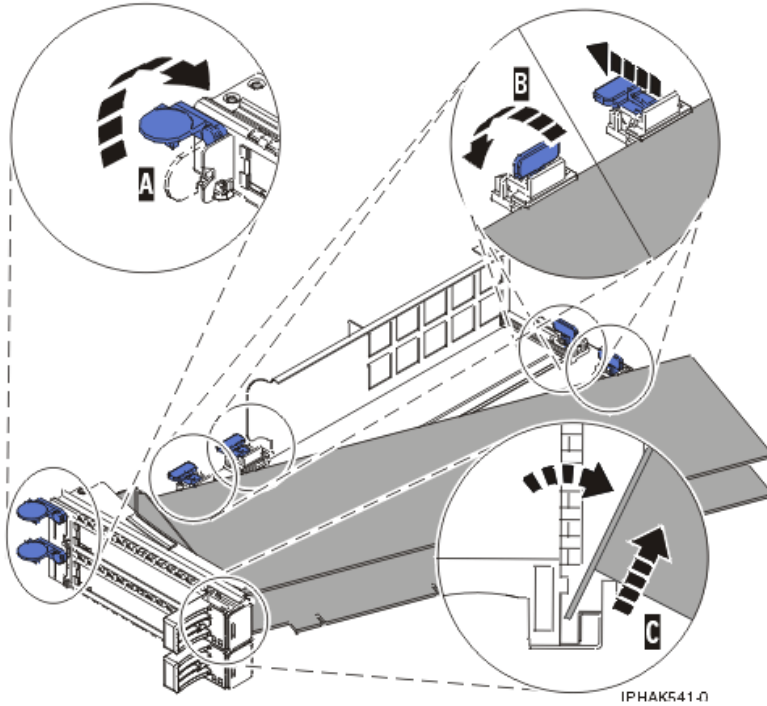
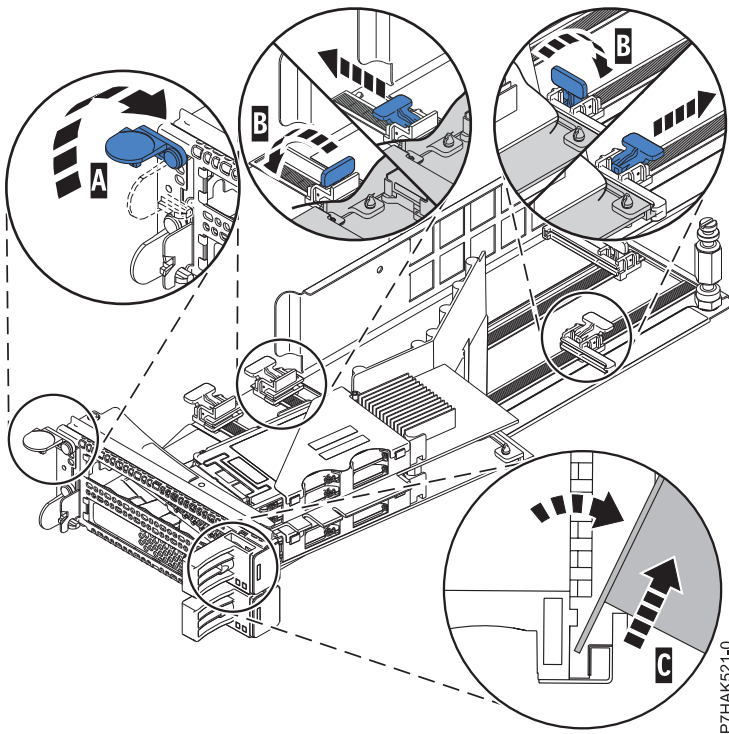

Figure 47. Adapter removed from the PCI adapter cassette
Figure 48. PCIe RAID and SSD SAS adapter removed from the PCI adapter cassette
- d. Unscrew pivot pin (C) and put it in a safe place
- a. Unlock the adapter retainers (B) by rotating the retainer clips (A) into the horizontal position. See Figure 47 on page 59. If you are removing a PCIe RAID and SSD SAS adapter, see Figure 48 on page 59.
- b. Push the adapter retainers (B) away from the adapter.
- c. Unlock the adapter tailstock clamp (A).
- e. Lift the adapter out of the tailstock retaining channel (C).